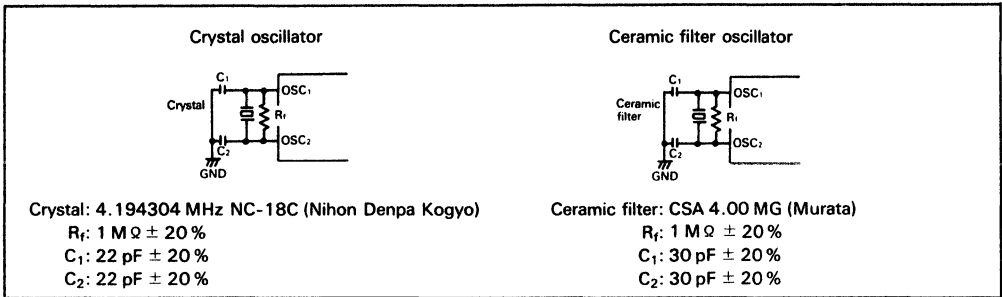

Figure 30. Oscillator Circuit
- Oscillator stabilization time is the time until the oscillator stabilizes after V_{CC} reaches its minimum allowable voltage after power-on, or after RESET goes high. At power-on or STOP mode release, RESET must be kept high for at least t_{RC} . Since t_{RC} depends on the crystal or ceramic filter's circuit constant and stray capacitance, please get the manufacturer's advice when designing the RESET circuit. (See figure 30)